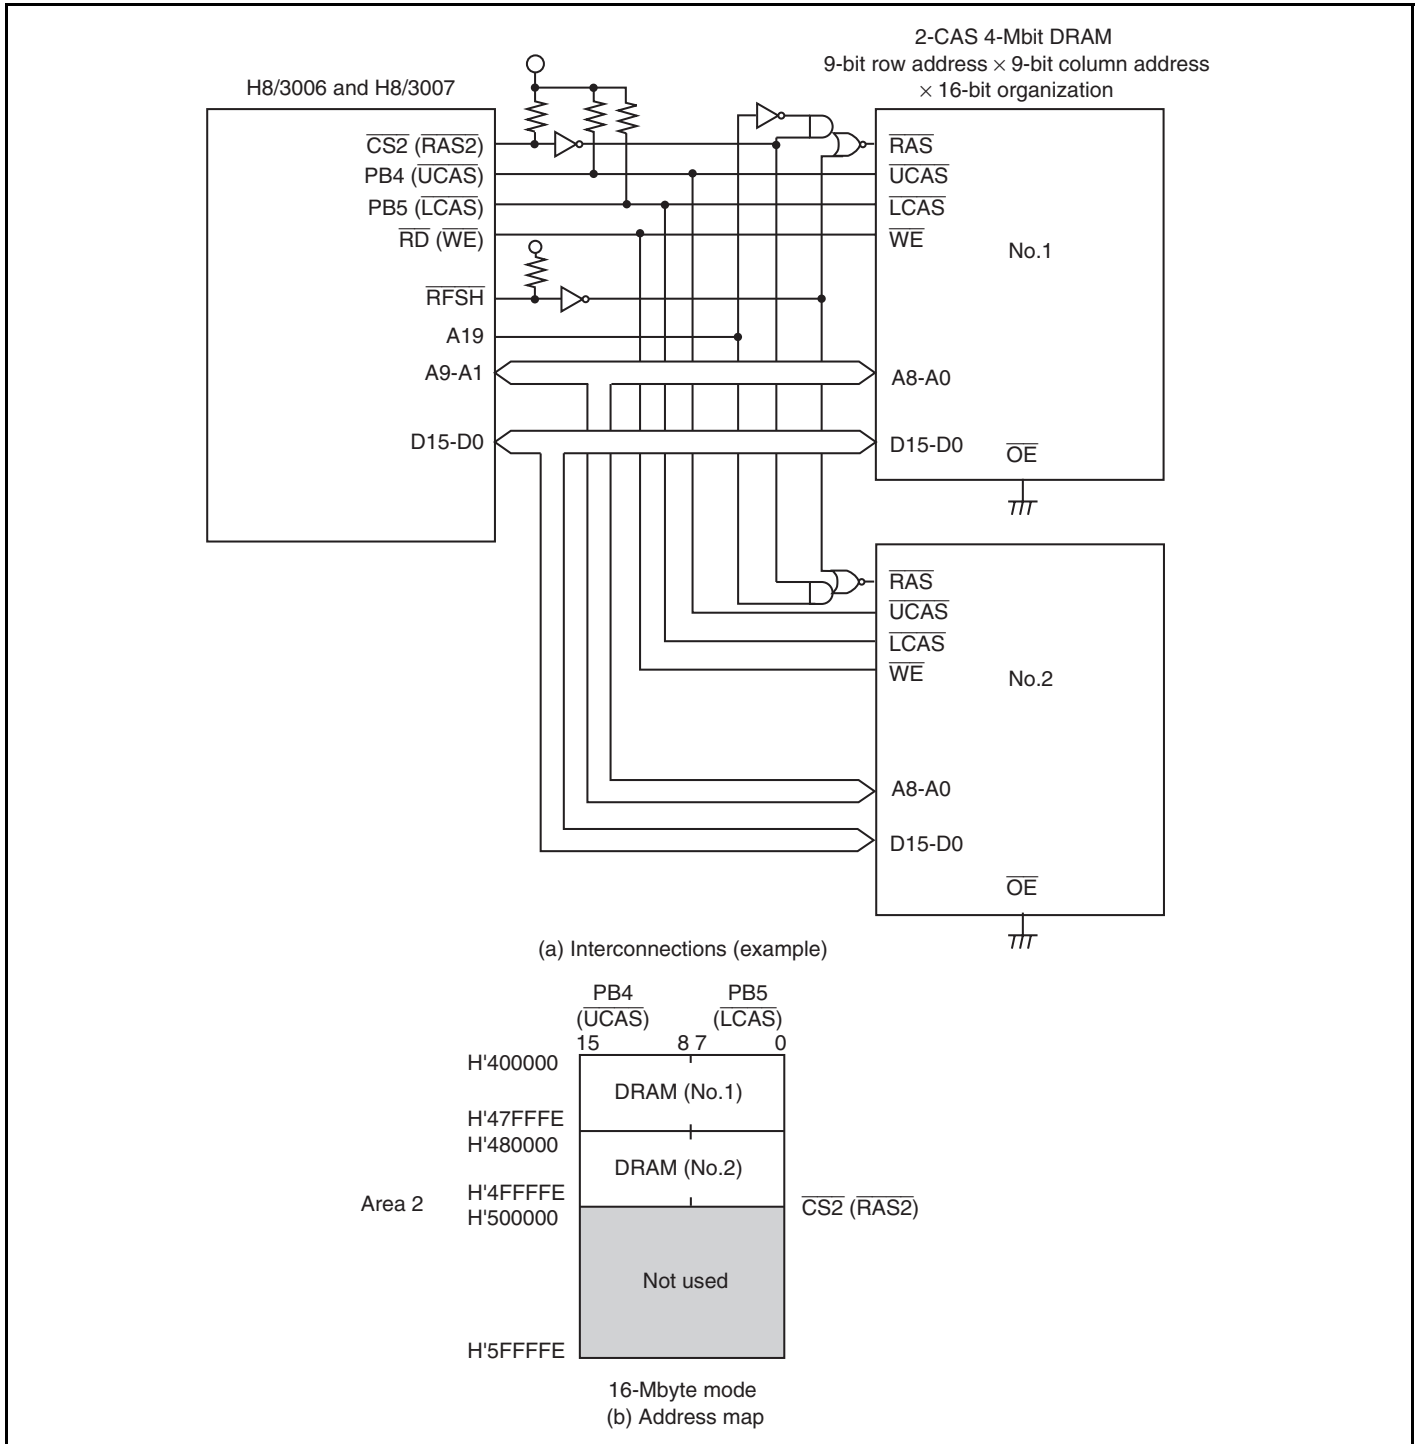

Figure 6.31 Interconnections and Address Map for 2-CAS 4-Mbit DRAMs with \times 16-Bit Organization
- Figure 6.31 shows typical interconnections when using two 4-Mbit DRAMs, and the corresponding address map. The DRAMs used in this example are of the 9-bit row address \times 9-bit column address type. In this example, upper address decoding allows multiple DRAMs to be connected to a single area. The $\overline{\text{RFSH}}$ pin is used in this case, since both DRAMs must be refreshed simultaneously. However, note that RAS down mode cannot be used in this interconnection example.